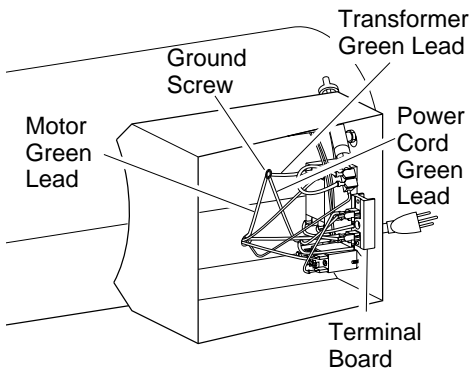

Figure 5 - Location of Ground Screw
2. Access ground screw through underside of heater base. Remove ground screw. Disconnect the green motor wire and the green power cord wire from underside of shell (see Figure 5).
3. Remove black and white motor wires from terminal board (see Figure 5).
16. Turn heater on its side to access opening in bottom of base. Connect green wires from motor, transformer, and power cord to heater shell using ground nut (see Figure 5).